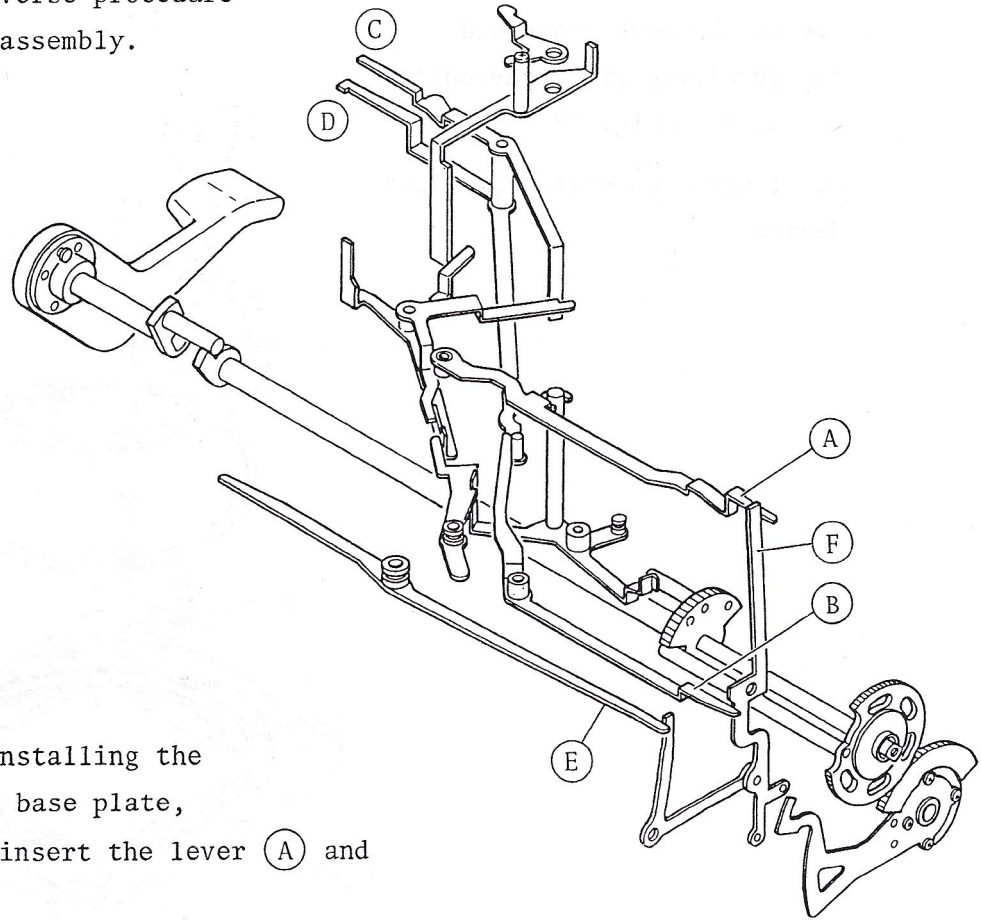

Fig. 47
2. (5) switch lever should move smoothly by its spring.
3. Check each position of the lever (A) and (F) as shown in Fig. 47.